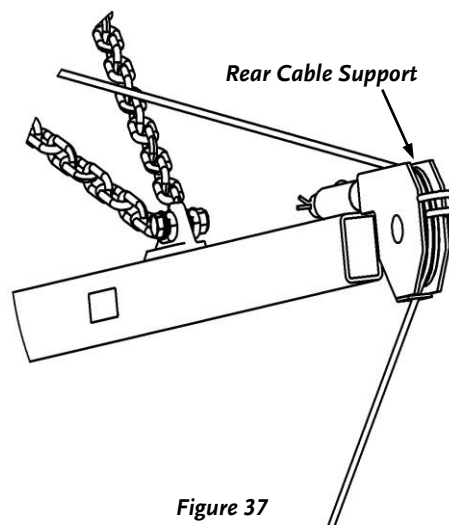

Figure 37
8. With the assistance of another person, pull the Winch Cable forward, while the other person cranks the Winch in reverse to let the Cable out and loop it around the Rear Cable Support. Thread the Cable in horizontally between the two Hooks (**Figure 37**) to hold it in place.